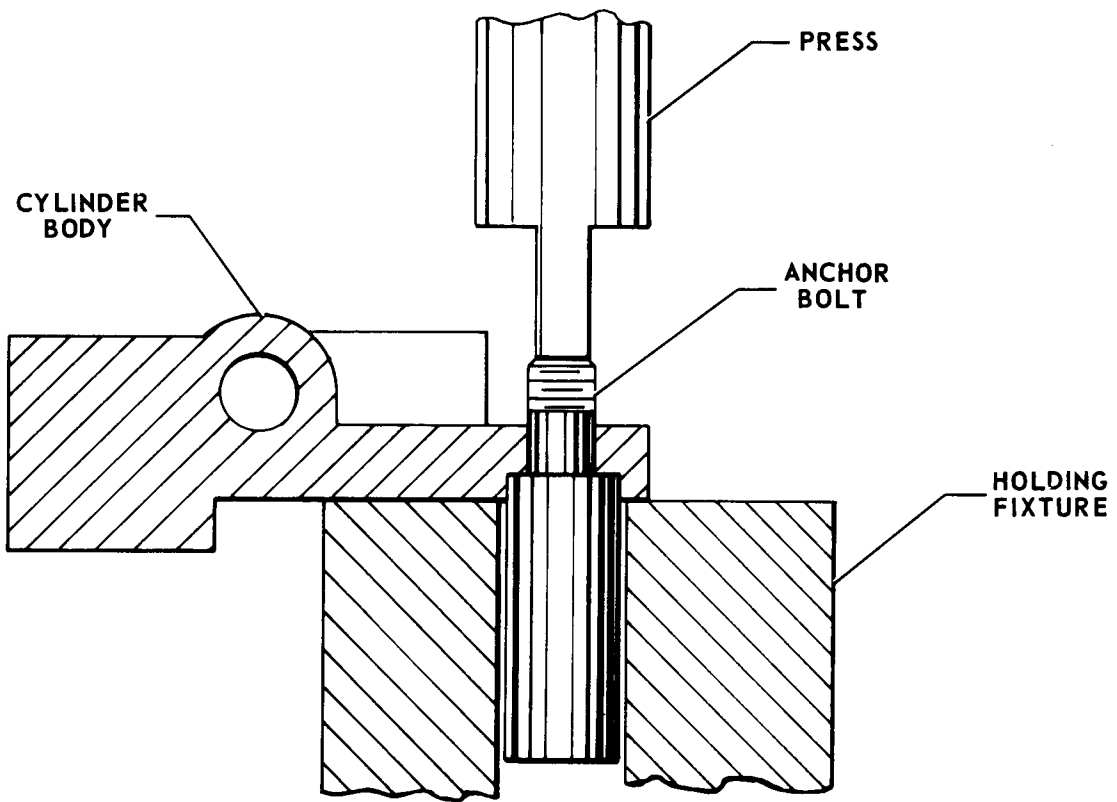

Figure 7-19. Removal of Anchor Bolt
- 1. Position cylinder assembly on a holding fixture. (Refer to Figure 7-19.)